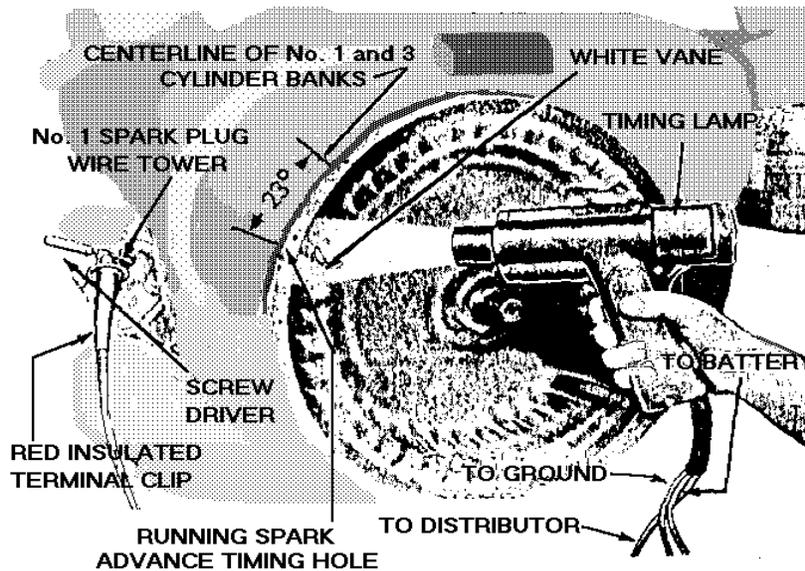

Figure 2b. Timing Engine With A Neon Light
**5.6.** At the time of flash, the leading edge of the vane should line up with the running advance-timing hole on the flywheel shroud. (See Figure 2b).